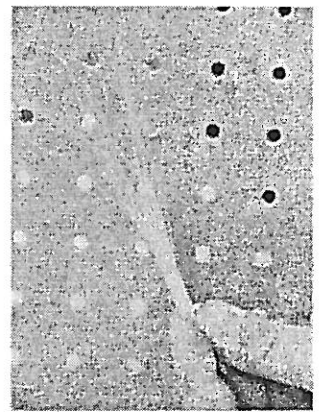

Fig. 5
7. Cut straw to 1" length. Cut 20 fiber optic strands into varying lengths and stuff into straw until fibers are tight in straw. Put a small bead of hot glue around fiber optics at top of the straw. (Fig. 5)